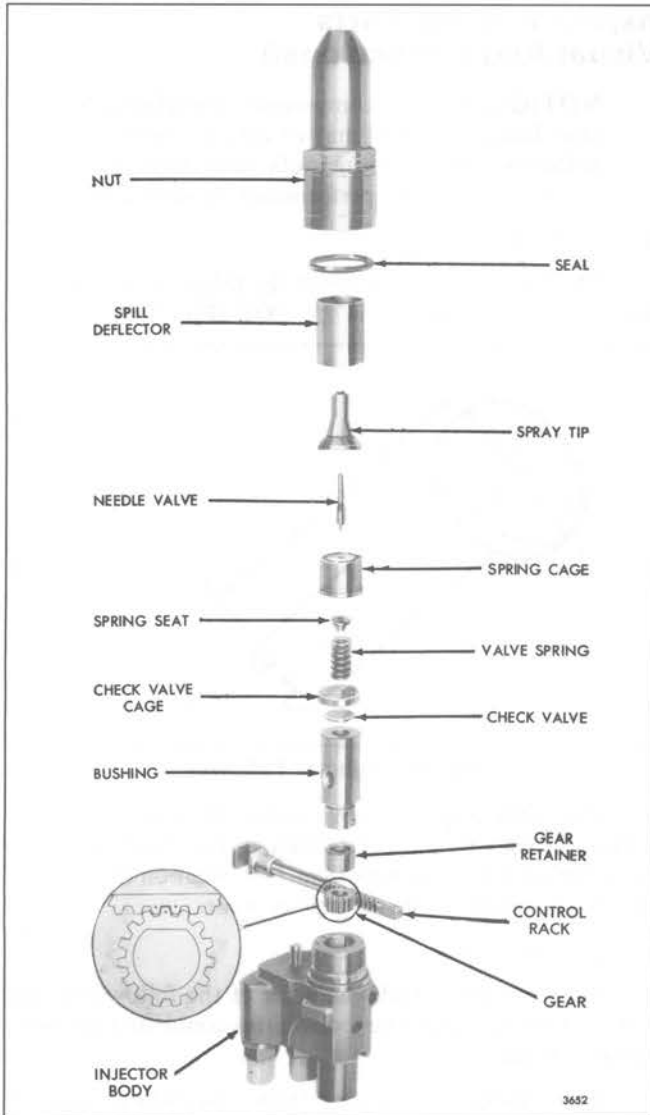

Fig. 14 – Injector Rack, Gear, Spray Tip and Valve Assembly Details and Relative Location of Parts
6. Refer to Fig. 14 and remove the spill deflector. Then, lift the bushing straight out of the injector body.